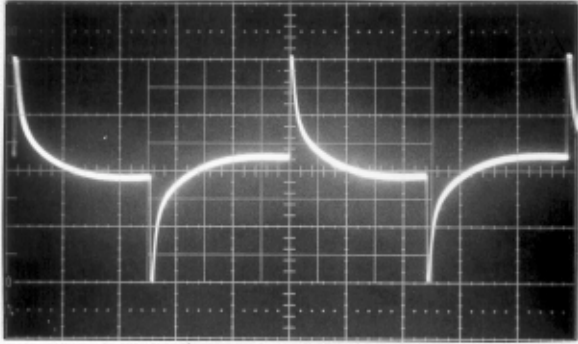

Fig. 10. Lo-Cut in.
- 6) Engage Low-cut switch, compare to Fig. 10. (Disengage).